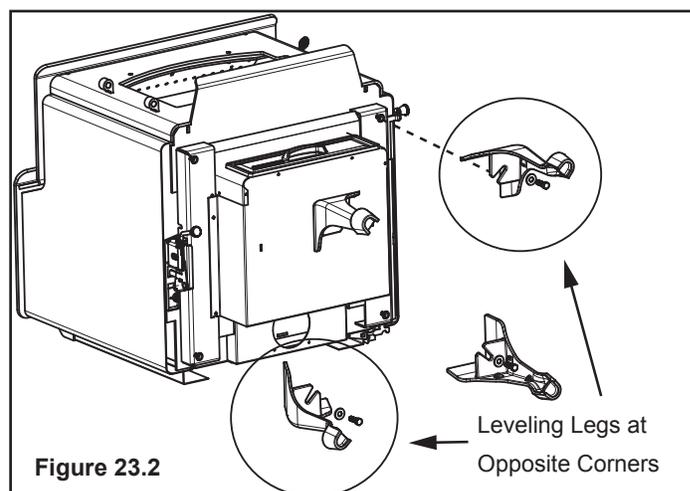

Figure 23.2
1. Replace front bricks that were removed in step 1 of Begin installing the ARS System on page 18 (**Figure 23.2 on page 23**).
3. Install ARS access cover inside of ARS Channel that is located inside the firebox (**Figure 23.2 on page 23**).
4. Install legs onto leg brackets making sure the legs are up against the bracket and secure with bolts and washers using a 3/8 open end wrench (**Figure 23.2**).
5. Install leveling bolts into 2 legs; these leveling legs should be in opposite corners (**Figure 23.2**).